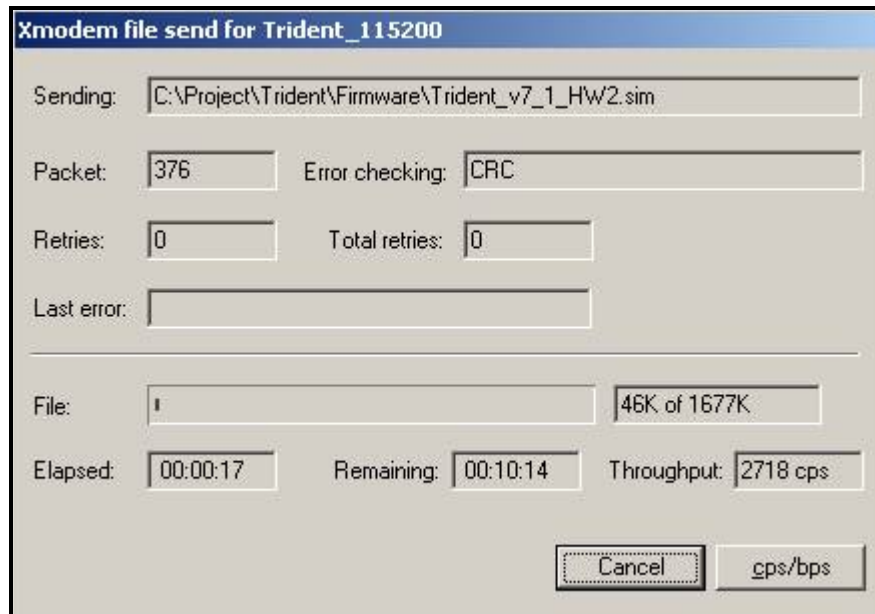
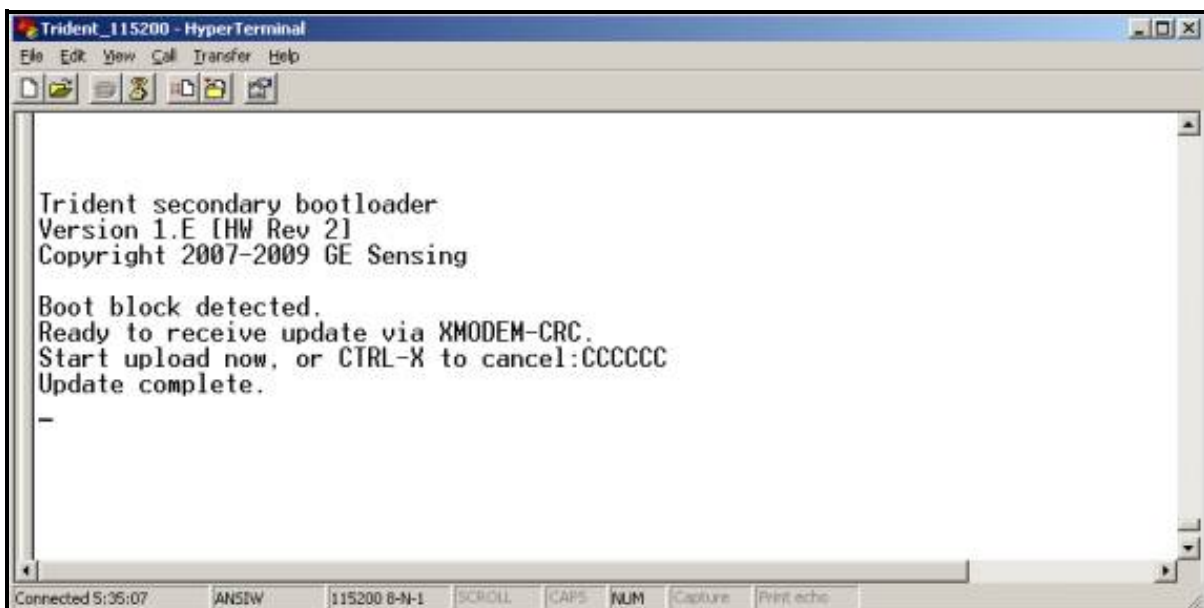

Figure 223: Sentinel LNG Transfer Status Window
Figure 224: PC Transfer Status Window
- In Hyperterminal, select *Transfer*, and then *Send File*. (The protocol should be Xmodem.) Use *Browse* to locate the file, which will have a .sim extension. Double click on this file and click the *Send* button. The screens on the Sentinel LNG (Figure 223) and on Hyperterminal (Figure 224) should both display the status of the transfer.